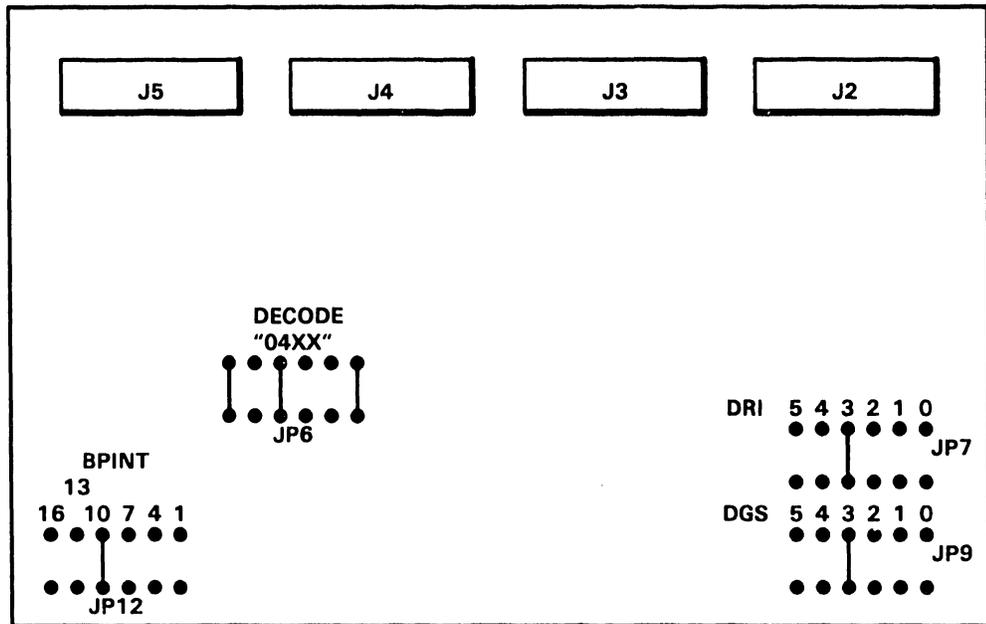

Figure 5-8. 210-7906 Serial I/O Adapter Connector and Jumper Locations
7. Check the jumpers (figure 5-8) on the device adapter and install the adapter in Motherboard slot number #4. (Workstation 0 must be connected to port #0 of this DA. This is a microcode convention and MUST be adhered to. (Refer to paragraph 4.11.2.) Insert the new adapter in the board guide and lower it to the Motherboard connector.